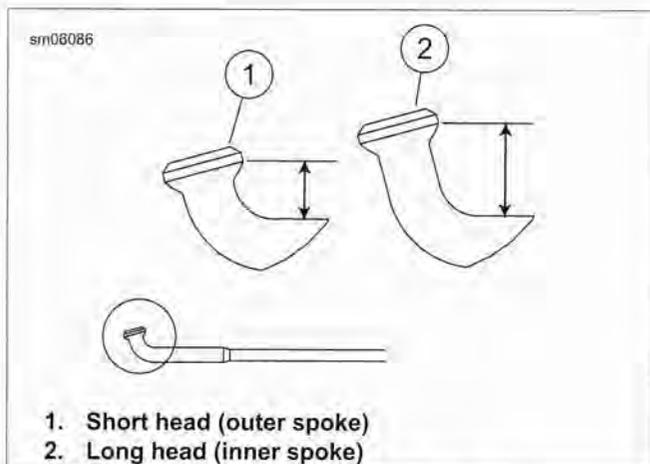
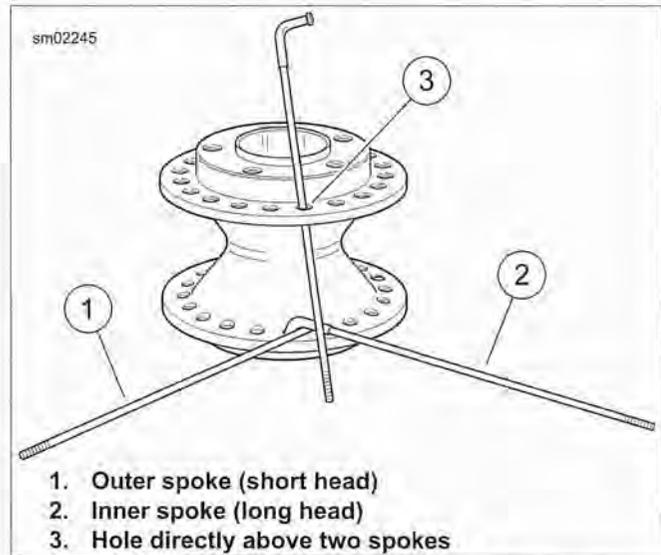

Figure 2-19. Spoke Heads
Figure 2-20. Lacing Single Row Wheel Hub
- See Figure 2-20. The following procedure is valid for laced wheels that use a straight flange, single spoke hole circle hub regardless of rim style or diameter.
1. See Figure 2-19. Divide spokes into inner and outer groups.
- a. Inner spokes (2) have long heads.
- b. Outer spokes (1) have short heads.
3. See Figure 2-20. Place hub on bench with the primary brake disc side up. Insert one outer spoke (1) (short head) into any bottom flange hole and swing it clockwise. Insert an inner spoke (2) (long head) in the next hole counterclockwise from the outer spoke. Swing the inner spoke counterclockwise over the outer spoke.
4. Find the hole (3) in the upper flange directly above the two spokes and insert a long head inner spoke. Insert all remaining spokes in the upper flange, alternating the inner and outer spokes.